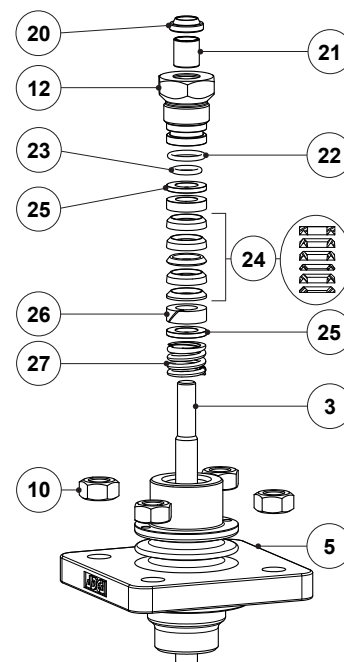

Fig. 9 - PTFE V-Rings
1. Unscrew the lock nut (13) from the stem (7).
2. Unscrew the packing nut (12) and remove it carefully together with the O-rings (22, 23).
3. Carefully pull the plug (3) with plug stem (7) out of the bonnet (5) through its bottom. Inspect the stem surface and plug sealing surface, replacing if necessary.
5. Clean the packing box and slide the stem (7) into the bonnet (5) once again.
6. Apply a suitable lubricant to all steam-sealing components and stem (7).
7. Carefully slide the stem sealing components into the packing box according to Fig. 9.
8. Renew the scraper ring (20), plain bearing (21), and O-rings (22, 23) if necessary. Fit the O-rings (22, 23) and the plain bearing (21), screwing it loosely.